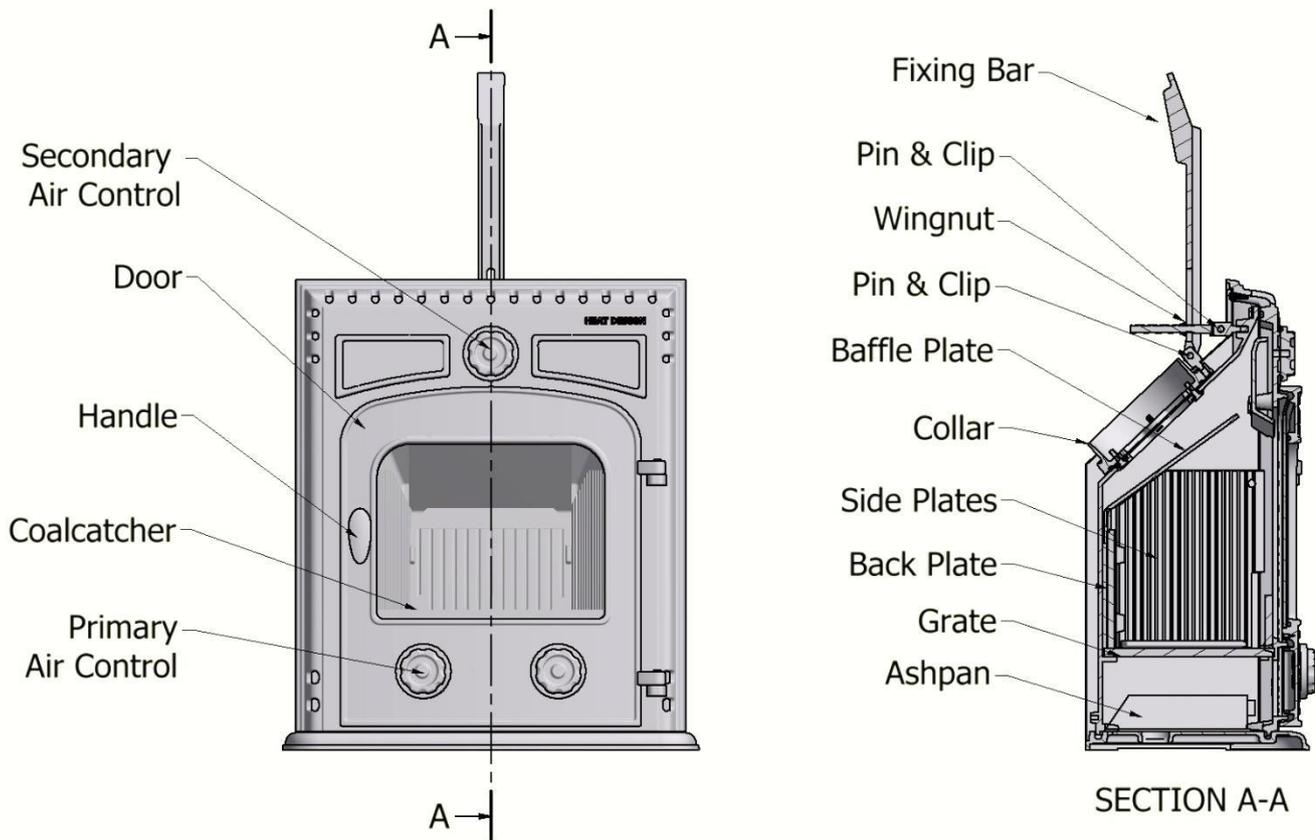

Fig 2 – GR6i Stove Assembly and controls
- Secure the fixing bar and the tightening screw to the stove as shown in fig. 2. Do not put on the wingnut until the stove is in place.